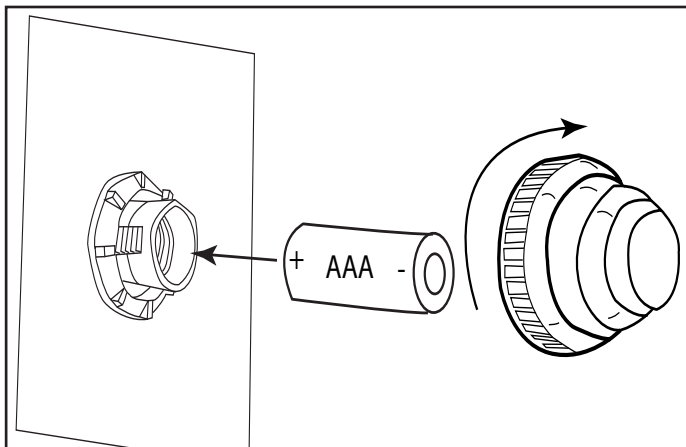

Fig. 11 Installing battery into Piezo.
Step 12: Install the AAA battery into the manual spark ignition module (Piezo). See Fig. 11. Ensure not to over-tighten the “red” button cap. These are plastic thread and can strip easily if not careful.